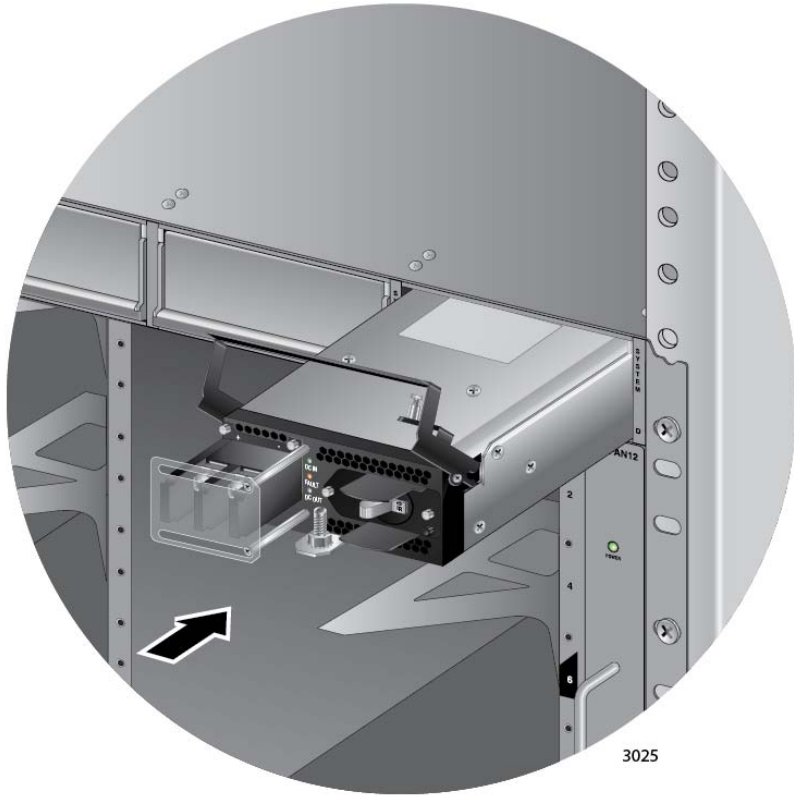

Figure 60. Inserting the AT-SBxPWRSYS1 DC System Power Supply
6. Align and insert the AT-SBxPWRSYS1 Module into slot C or D. Figure 60 on page 105 shows the power supply installed in slot D.